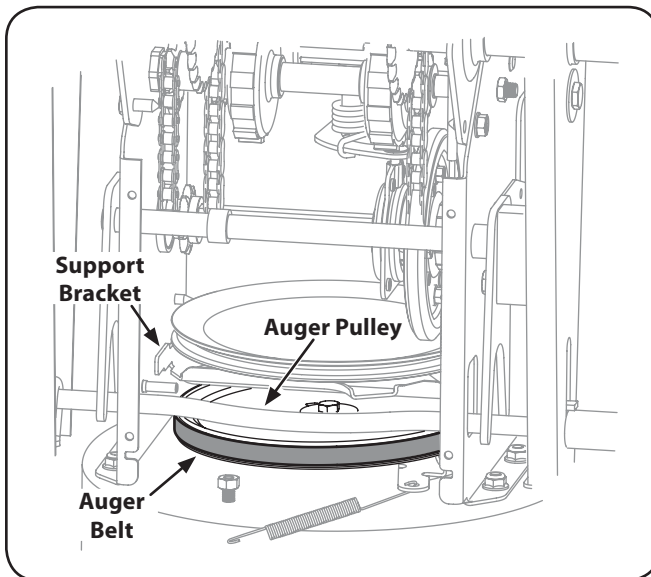

Figure 7-5
7. Lift the auger belt from the auger pulley, and slip belt between the support bracket and the auger pulley. See Fig. 7-5.